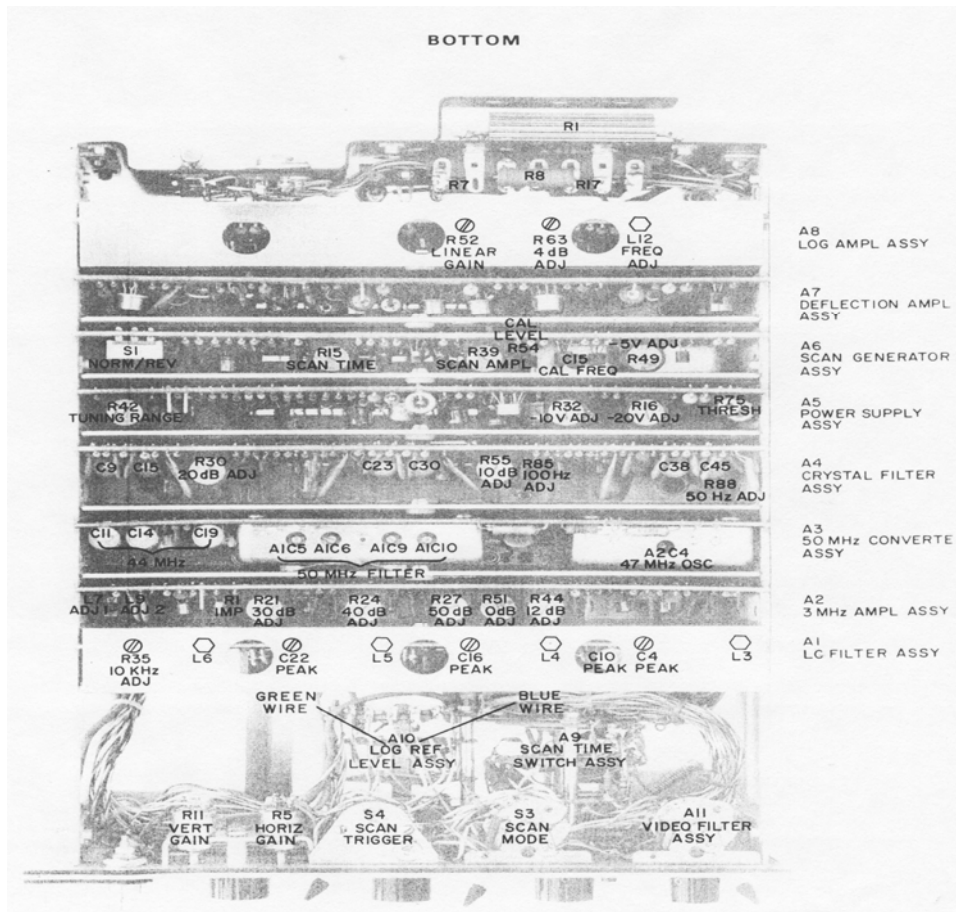
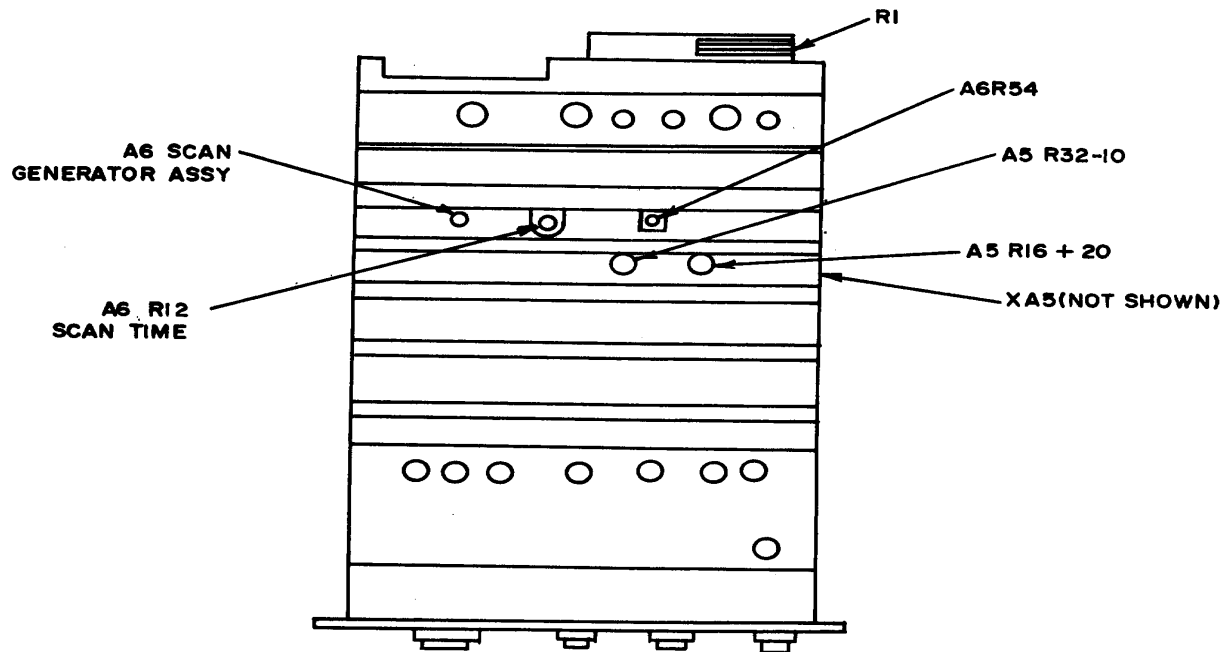
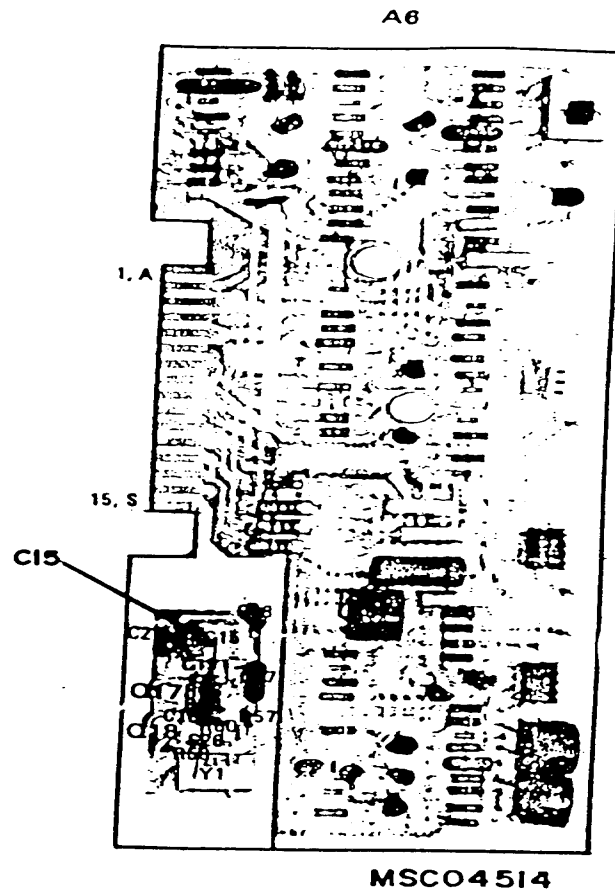

Figure 2. Model 8552A adjustment locations - bottom view.
Figure 3. Model 8552B adjustment locations - bottom view.
Figure 4. Test instrument - board A6 adjustment locations.
- (1) Connect TI to extender (supplied with TI) and connect extender to display section.
- (2) Adjust A6R54 (fig. 2 and fig. 3) for a -30 dBm ± 0.3 dB indication on measuring receiver (R).
(1) Connect TI to extender and connect extender to display section.
(2) Adjust A6C15 (fig. 2 or fig 4) for indication specified in **a** (2) above (R).